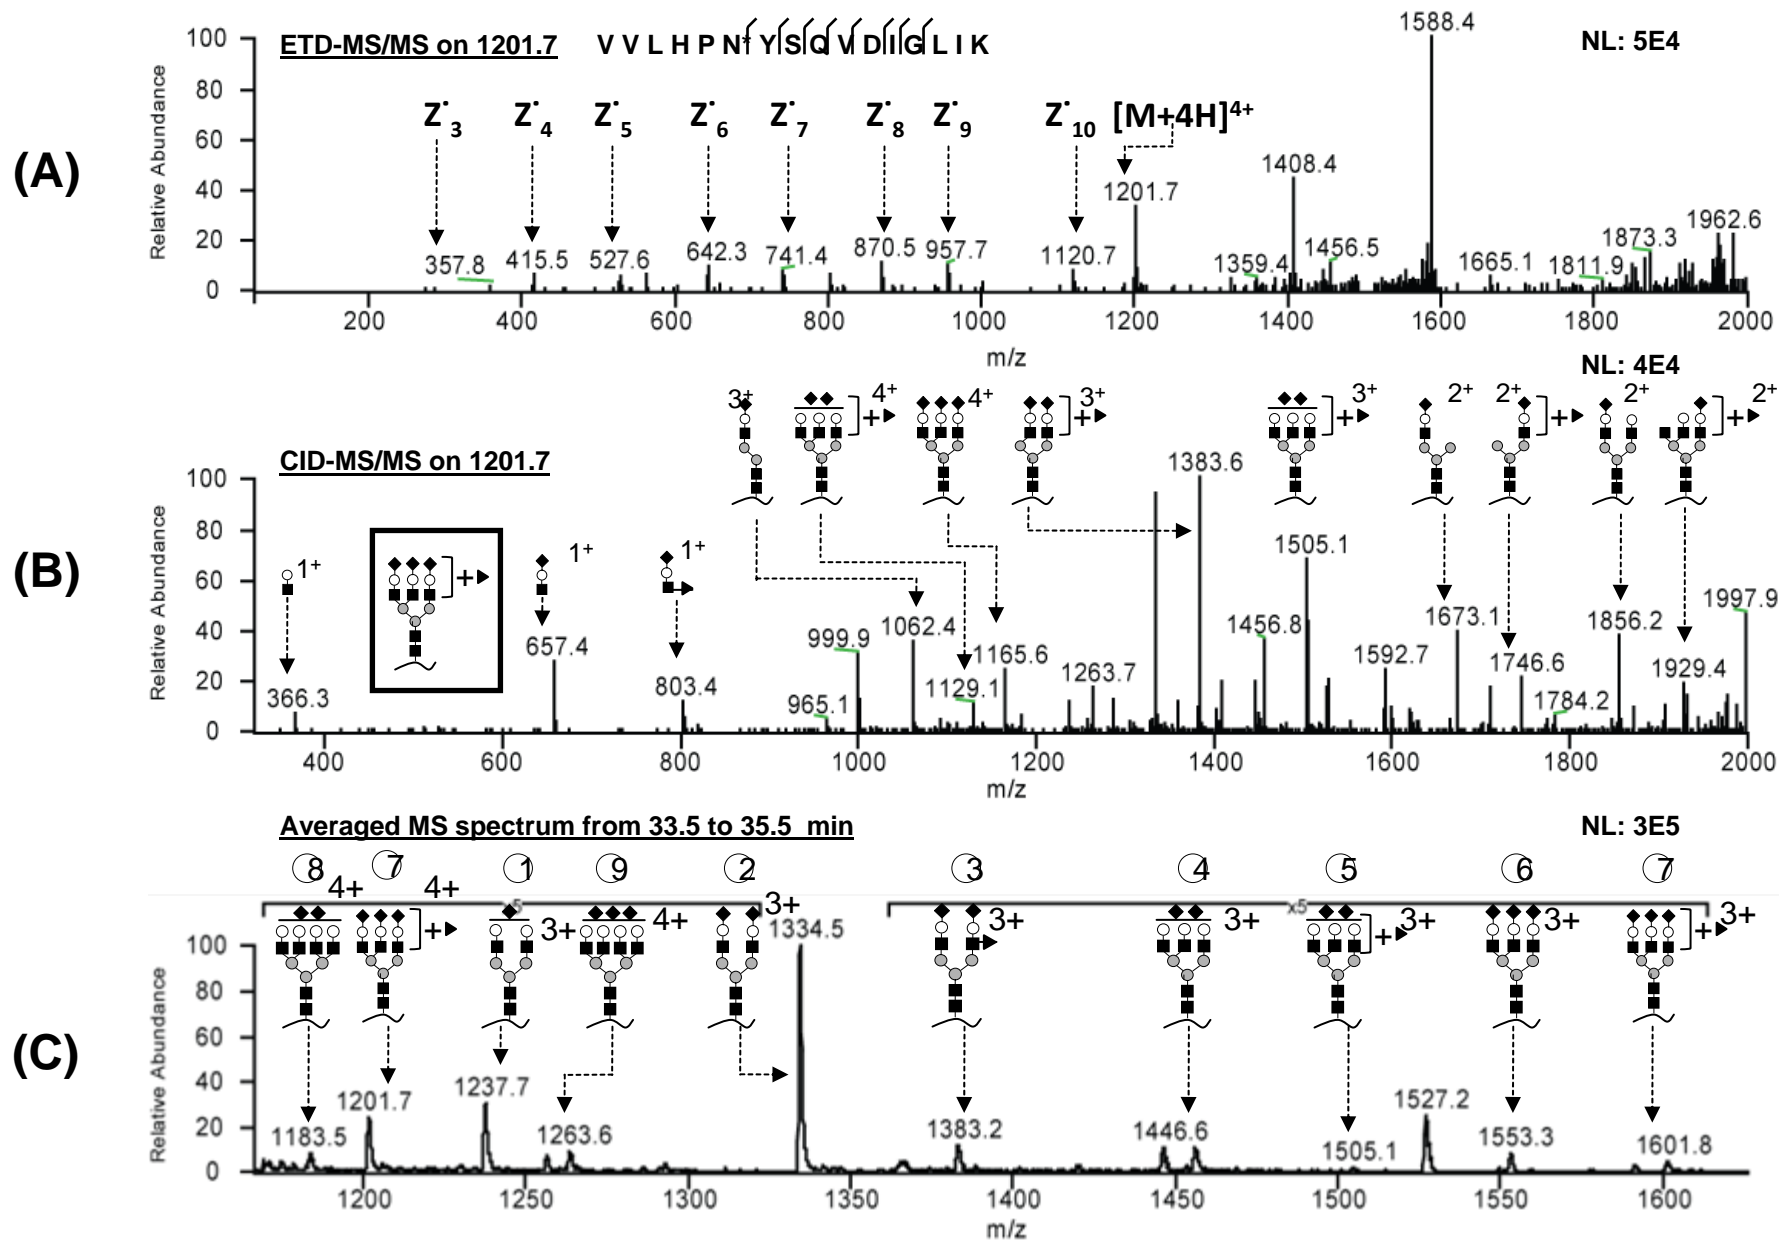

Figure S2
Figure S2. Glycoform identification on glycopeptide T3. (A) ETD-MS/MS generated peptide fragments c and z' ions. (B) CID-MS/MS generated oxonium ions and glycopeptide fragments. (C) Averaged base peak chromatogram contained all the glycans on glycopeptide T3. m/z 1527.2 is a co-eluting nonglycosylated peptide. NL: normalized level. Key to symbols can be found in Figure 3.